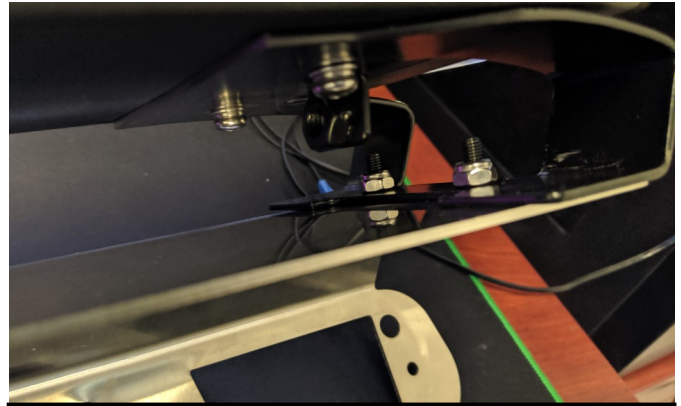

Figure 4—Installing Hornet Light onto bracket.
6. At this point, install the hornet light on to the mounting bracket using the 10-32 nuts and bolts. This will require the 1/8" Allen and the 3/8" wrench. **(Figure 4)**